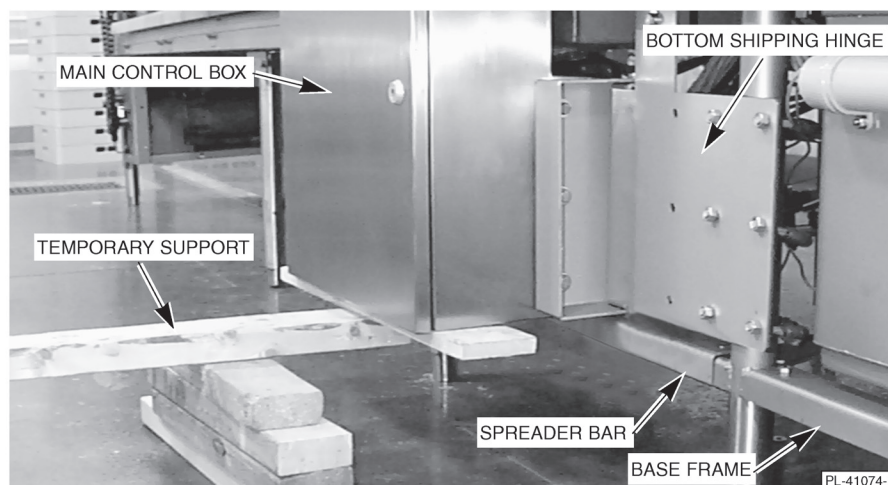

Fig. 19
Assemble the spreader bar, joining the front base frame of the center and unload sections (Fig. 19). Use $5/16$ -18 bolts, lockwashers, washers and nuts, provided.
1. The spreader bar (Fig. 19) provides a support for the bottom of the control box. Use wood blocks to lift and support the control box temporarily (Fig. 19).